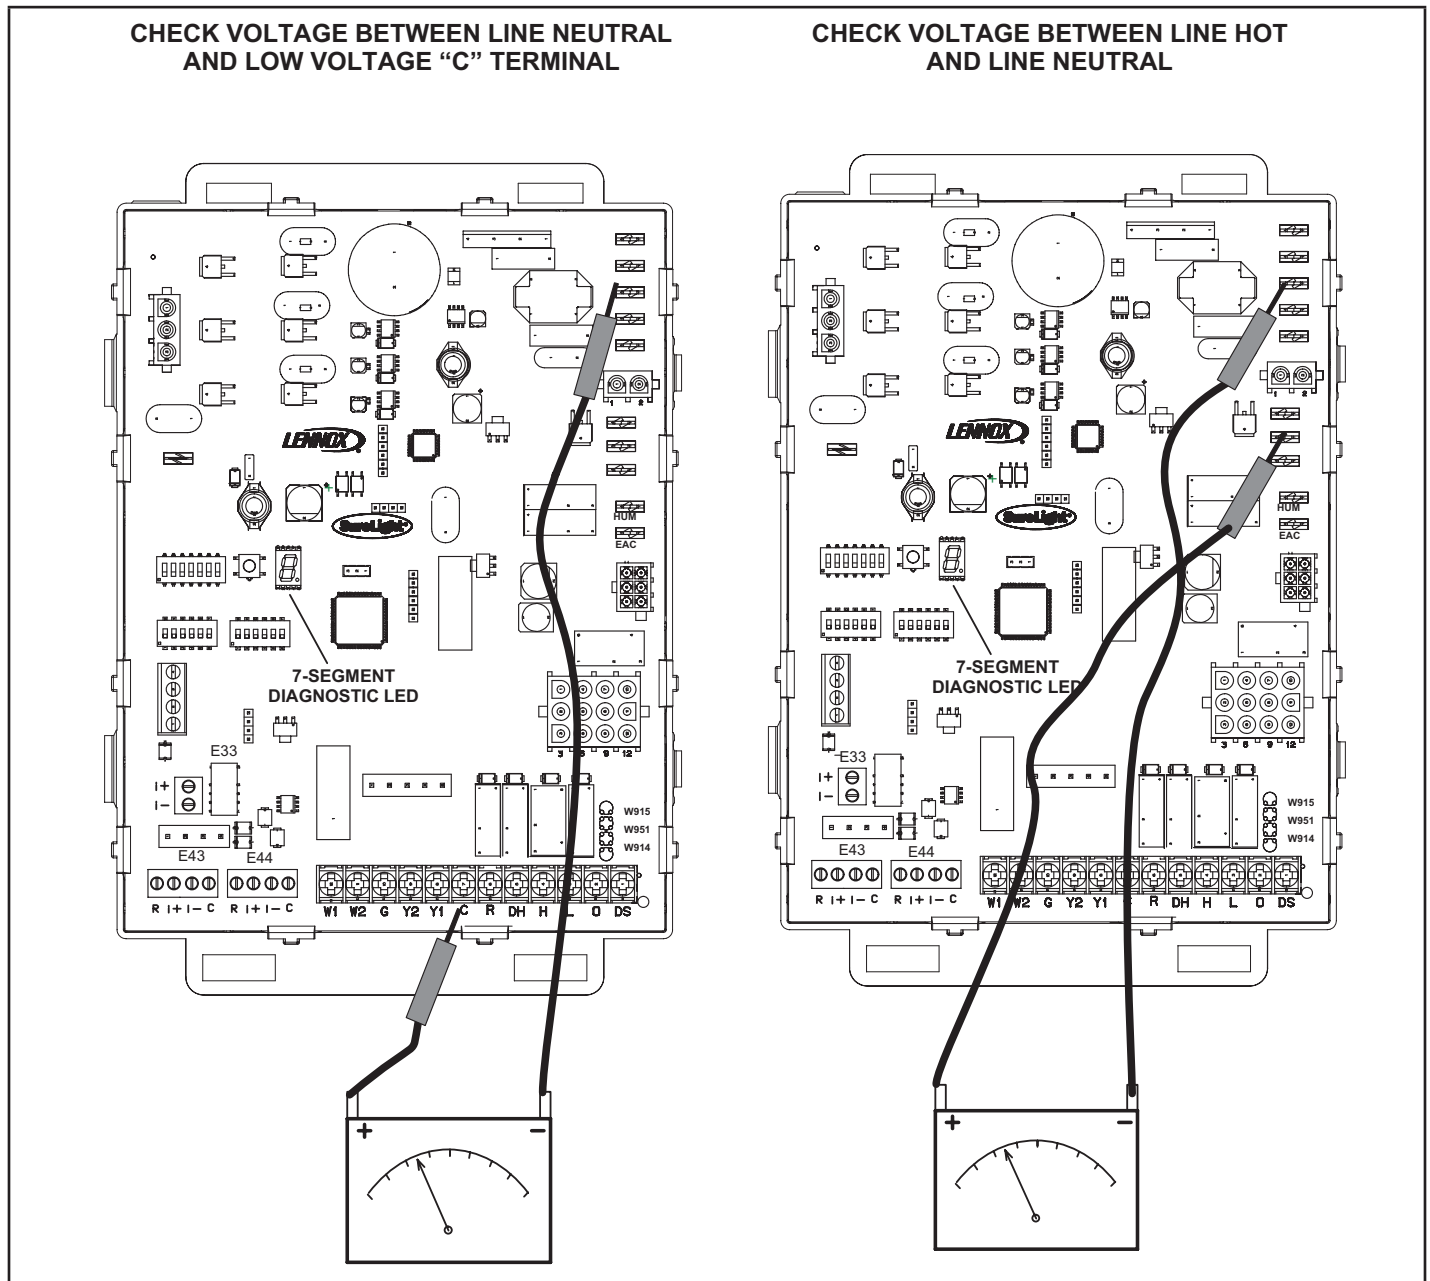

FIGURE 52
- 1 - Measure the AC voltage between Line Neutral (spade terminals) and "C" terminal (low voltage terminal block) on the integrated control. See FIGURE 52. A wide variation in the voltage between Line Neutral and "C" as a function of load indicates a poor or partial ground. Compare the readings to TABLE 33. If the readings exceed the maximum shown in the table, make repairs before operating the furnace.
- 2 - In addition, measure the AC voltage from Line Hot to Line Neutral (spade terminals) on the integrated control. See FIGURE 52. This voltage should be in the range of 97 to 132 Vac.